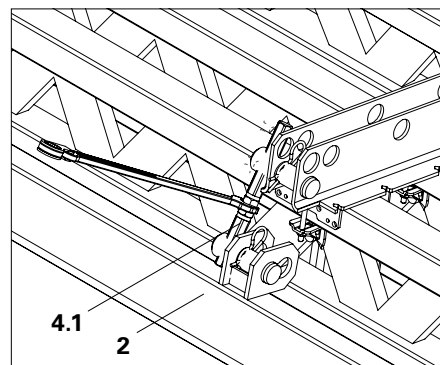

Fig. A5.02a
1. With the Adjusting Spindle 210 (4.1), adjust spacing to 14.5 cm between the top edge of the Edge Profile (2) and bottom edge of the template, see A6.04. (Fig. A5.02a + A5.02b)